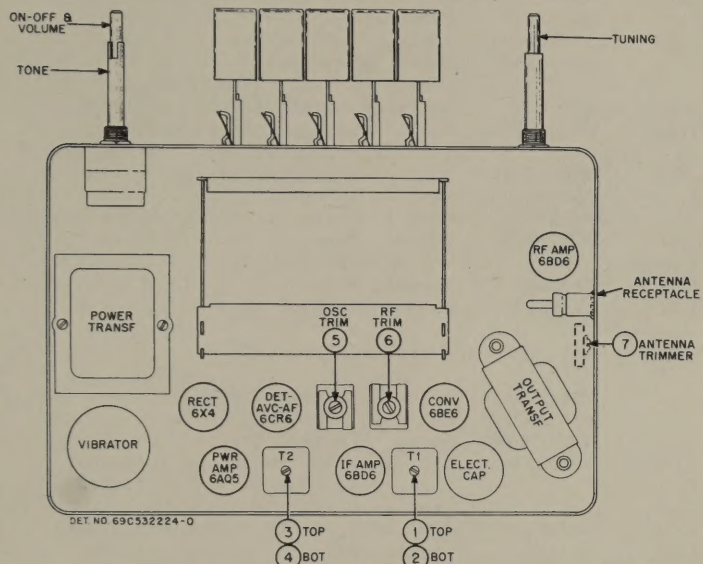

FIGURE 1. TUBE AND TRIMMER LOCATIONS AND DUMMY ANTENNA DETAIL
3. A dummy antenna for RF and tuner alignment constructed as shown in Figure 1.